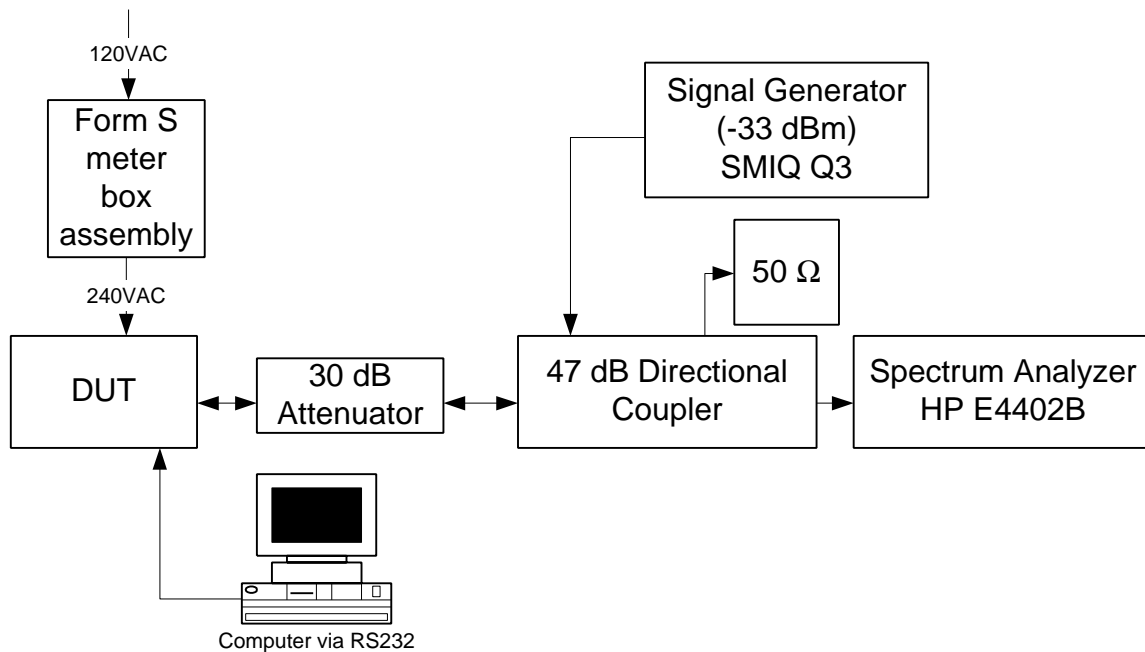

Figure 2 Test Setup for Occupied Bandwidth and Supply Variation tests.
- 1) The test setup in Figure 2 is used to test the Occupied Bandwidth at room temperature. This is measured to be at 25°C using the Omega HH501DK Type K Thermometer.
- 1) The test setup in Figure 2 is used to test the Frequency Stability at room temperature. This is measured to be at 25°C using the Omega HH501DK Type K Thermometer.